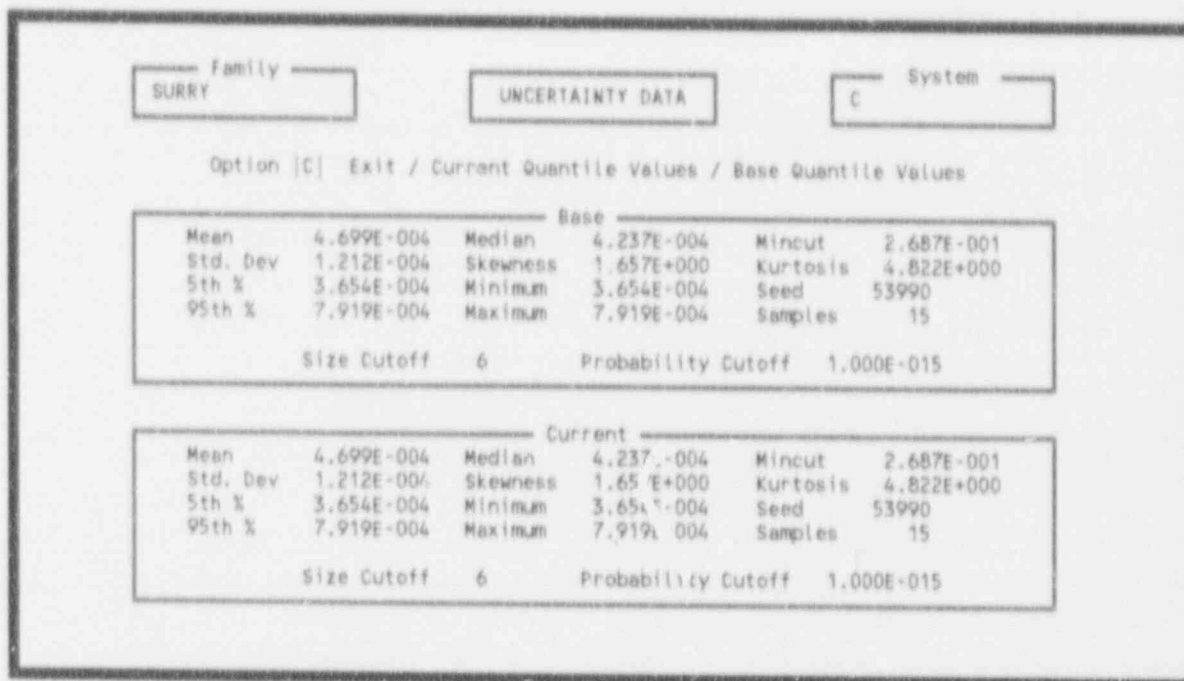

Figure 59. Uncertainty data display.
**3.4.1.4 Uncertainty.** The Uncertainty option displays the distribution and confidence limits of a system for both base and current data values. These values were calculated using either the Latin Hypercube simulation technique or the Monte Carlo simulation technique. To invoke this option, type  (Uncertainty) in the option field of the System Display screen, highlight the desired system, and press <Enter>. Figure 59 shows the base and current case uncertainty data for a selected system.